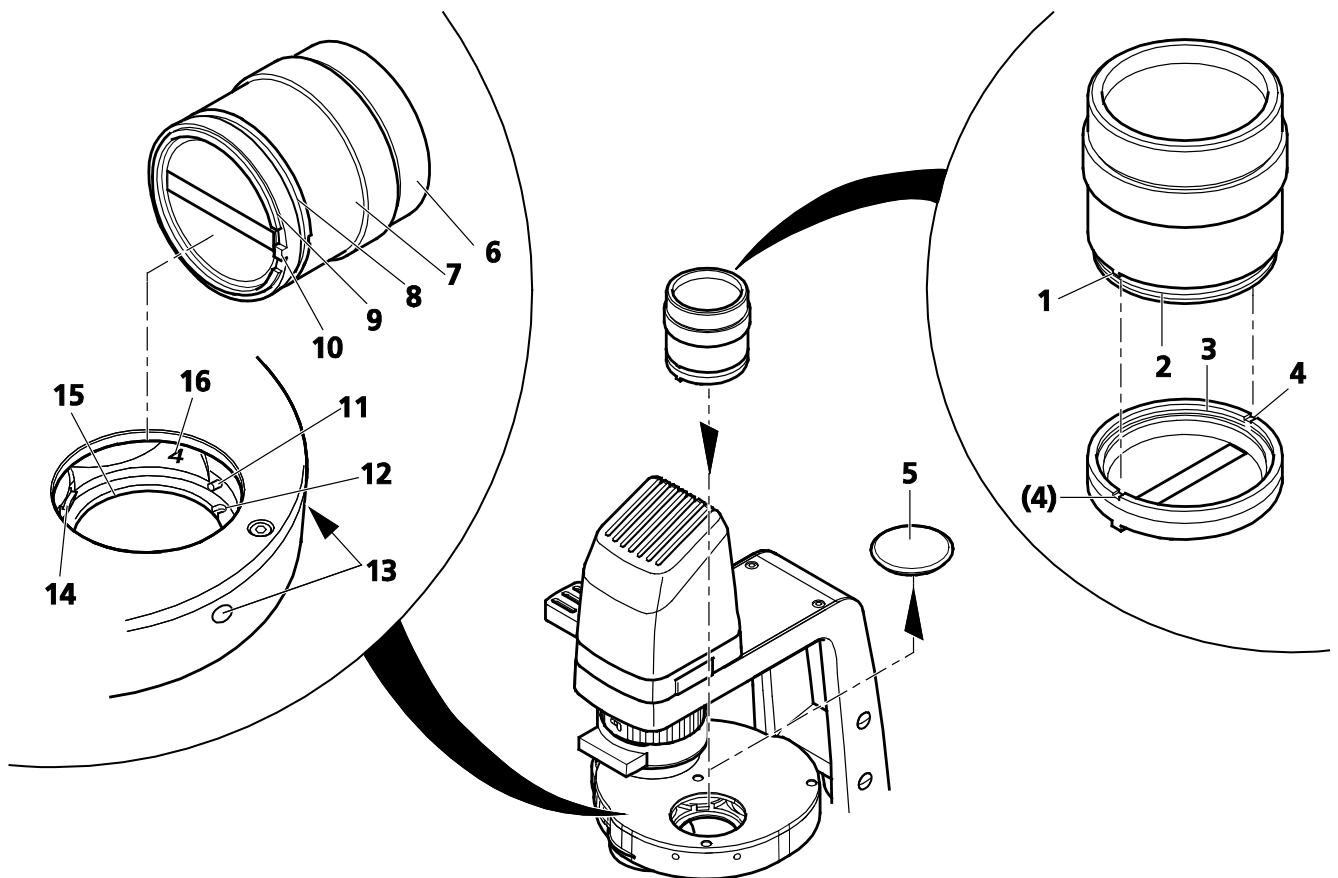

Fig. 3-25 Installing Diaphragms in the Modulator Disk of the Condenser
- Remove the sealing cap (Fig. 3-25/5) from the mounting hole.
Each of the condenser positions on the modulator disk is marked with a number (Fig. 3-25/16).
- Screw the desired module (Ph, iHMC, PlasDIC or DIC, Fig. 3-25/3) onto the thread (Fig. 3-25/2) of the mounting tool.
- Lock the cams (Fig. 3-25/1) on the underside of the mounting tool into the recesses (Fig. 3-25/4) of the contrast module.
- Insert the contrast module into the desired modulator disk position, using the gripping component (Fig. 3-25/6) of the mounting tool.
- The two centering screws (Fig. 3-25/11) may first have to be turned back slightly, as appropriate. These screws are accessible from the outside through holes (Fig. 3-25/13).
- During insertion tilt the equipped mounting tool and push the chamfer (Fig. 3-25/8) of the contrast module mount against the aluminium-colored pressure piece (Fig. 3-25/14). At the same time (in the case of DIC or PlasDIC) align coarsely cam (Fig. 3-25/10) and recess (Fig. 3-25/12).
The slit diaphragm and the DIC prism are automatically centered via the hole (Fig. 3-25/15) and the shoulder (Fig. 3-25/9).
- For the DIC prism and the PlasDIC diaphragm, rotate the alignment unit (Fig. 3-25/7) of the mounting tool to allow the cam (Fig. 3-25/10) to engage into the recess (Fig. 3-25/12).
- Hold the alignment unit (Fig. 3-25/7) and turn the mounting tool (Fig. 3-25/6) out of the contrast module.